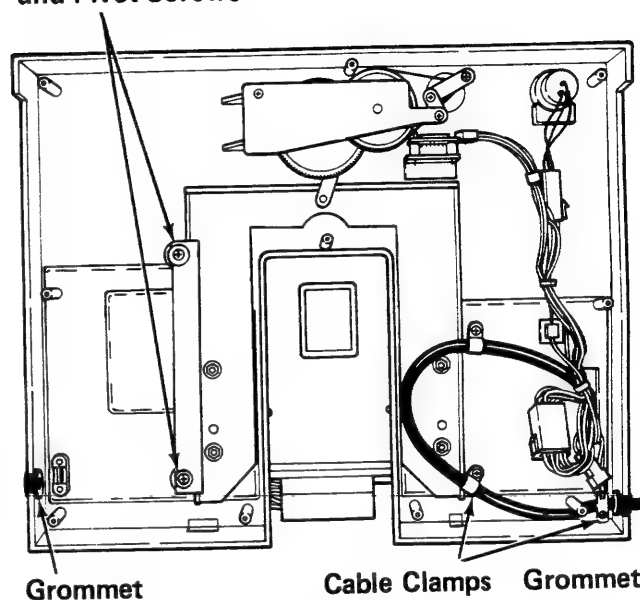

Figure 3-11A
5. Loosen the Adjustment and Pivot Screws (Figure 3-11A).